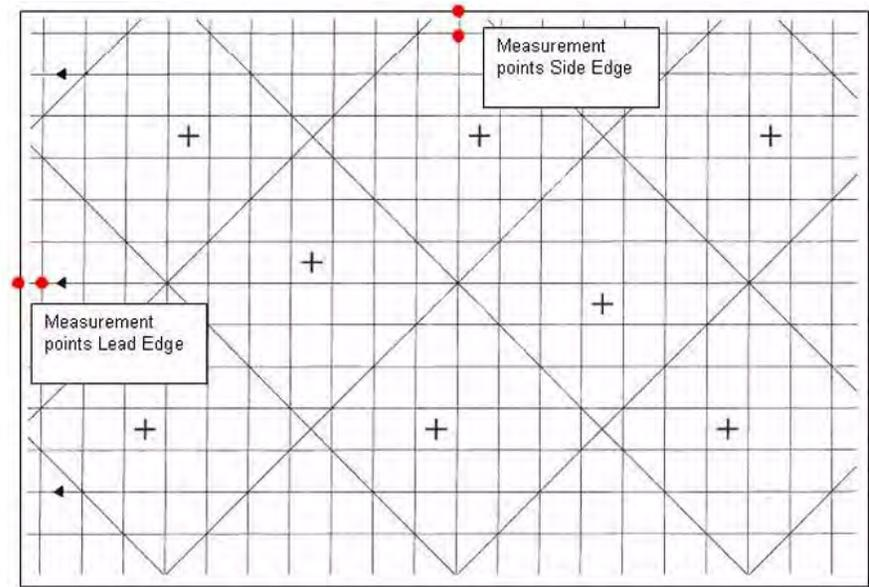

Figure 1 Test Pattern Measurement Points
11. Remove the prints one at a time from the center output tray and **Flip each one Right to Left**, to position it as shown in Figure 1 (lead edge to the left).
13. Take the third print and measure from the lead edge to point A (as shown on Figure 1). Point A is at the intersection of the 7th line from the side edge and the first line from the lead edge.
NOTE: "Side 2" will be delivered face-down in the tray, with the Lead edge to the right. Flip each one Right to Left to position it as shown in Figure 1 (lead edge to the left).
4. Take the third print and measure from the lead edge to point A (as shown on Figure 1). Point A is at the intersection of the 7th line from the side edge and the first line from the lead edge.
4. Take the third print and measure from the top edge to point B1 (as shown on Figure 1). Point B1 is at the intersection of the first line from the side edge and the **line** from the lead edge.